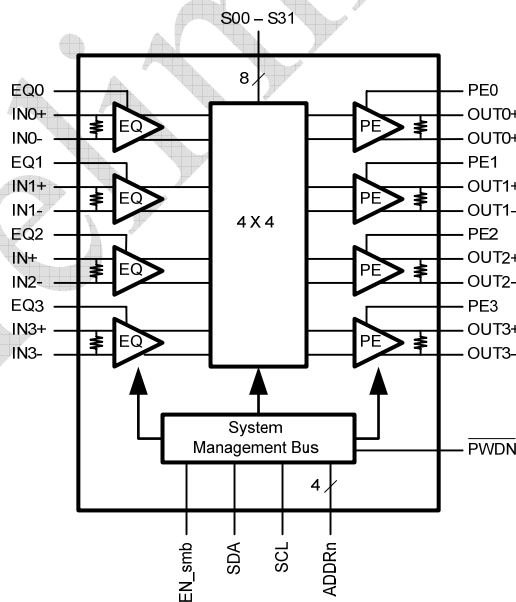

Figure 3. DS25CP104 Block Diagram
1. The **DS25CP104** IC with associated connectors and jumpers is the main part of the board. The block diagram of the DS25CP104 is shown in Figure 3. The receive buffers can be set to Off and Low equalization by the external pins EQ0 – EQ3; the transmit buffers has can be set to Off and Med. levels of pre-emphasis by the external pins PE0 – PE3. Since data capabilities are 3.125 Gbps, SMA connectors are used to ensure minimal loss. More information can be found about the DS25CP104 on the data sheets.